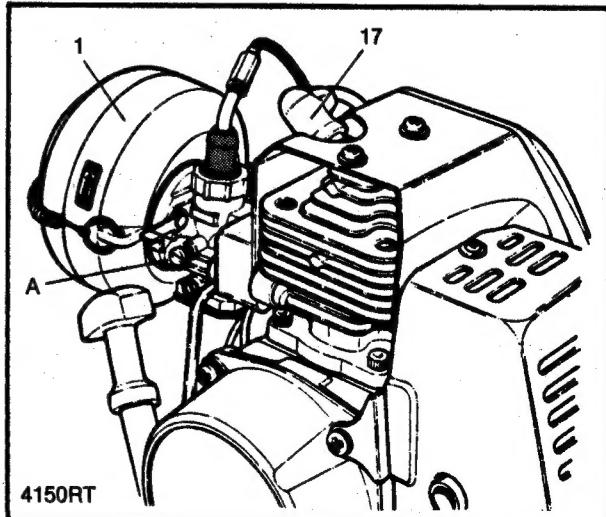

FIG. 13 - SERVICING CARBURETOR
If, after the AIR CLEANER (1), SPARK PLUG (17) and spark arrestor have been inspected/cleaned, the engine will not start, stalls at idle speed, or stalls during rapid acceleration, refer to FIG. 13 and take the following steps:
1. It is possible that the idle mixture screw (A) needs to be adjusted if the engine starts, but stalls rather than continue to run at an idle speed. Turn the screw CLOCKWISE 1/8 turn (at a time) and restart engine - continue this procedure until the engine runs at an idle.
An alternate idle adjustment can be made by changing the TRAVEL length of the THROTTLE CABLE (21). It enters the carburetor top through the rubber cap (C). Refer to FIG. 13-A and proceed as follows: